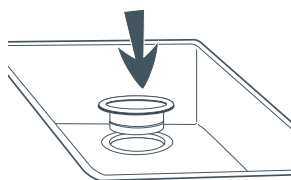

Fig. 4 Fitting the flange into the sink drain hole
- 3 Apply a small amount of plumbers putty to the lip of the sink flange and position the sink flange into the sink drain hole ensuring that the rubber gasket on the underside of the sink flange is firmly in place (fig.4).